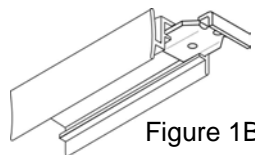

Figure 1B
- F. Locate the Pivot Block Clamp (#8) in the hardware bag. Loosen the #10-32 x 7/16 Screw (#8A) in the Pivot Block Clamp (#8) and slide the Pivot Block Clamp (#8) into the Top Track (#2) on the side where the door will pivot (See Figure 1B).